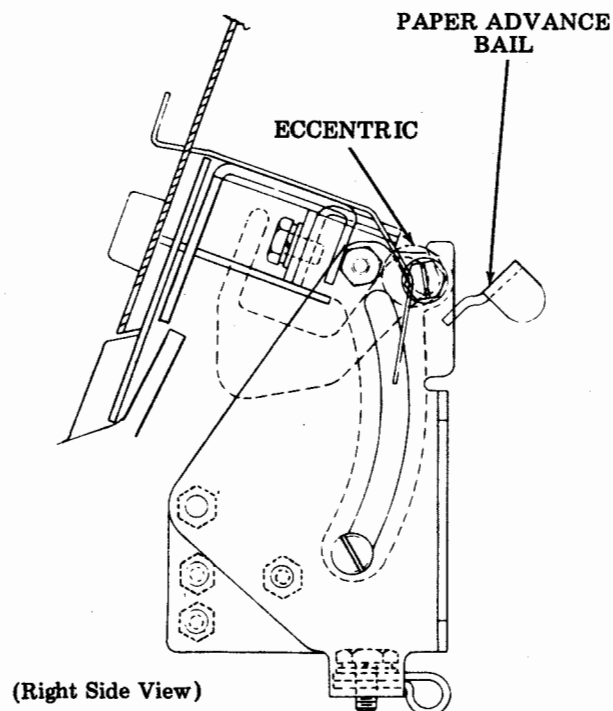

Figure 10 - Control Panel Button Adjustment
**4.07 Paper Advance and Local Return:** With the control panel in its normal position and the typing unit secure to the base, loosen the two eccentric screw locknuts friction tight. Rotate the eccentric until the gap between the paper advance bail and/or the local return bail is 0.060 inch minimum (Figure 10). Tighten both nuts. Move the print hammer carriage to the right and check the local carriage return operation. The paper advance operation must be checked under power.